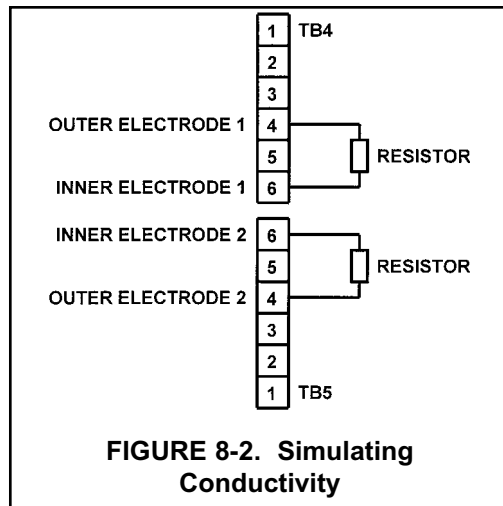

FIGURE 8-2. Simulating Conductivity
- B. Connect the standard resistors as shown in Figure 8-2.